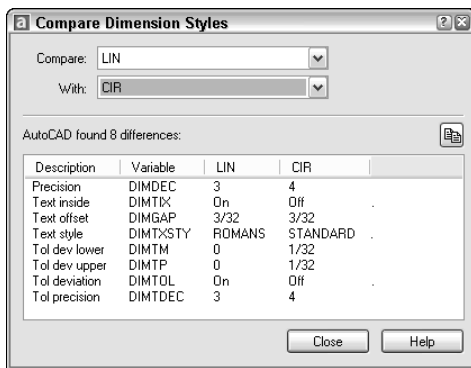

Figure 15-36: This listing compares the two dimension styles in this drawing.
11. To compare the CIR and LIN dimension styles, choose Dimension Style from the Dimension toolbar. Choose Compare. LIN should appear in the Compare drop-down box. Choose CIR from the With drop-down box. AutoCAD lists the differences, as shown in Figure 15-36. Click Close twice to return to your drawing.